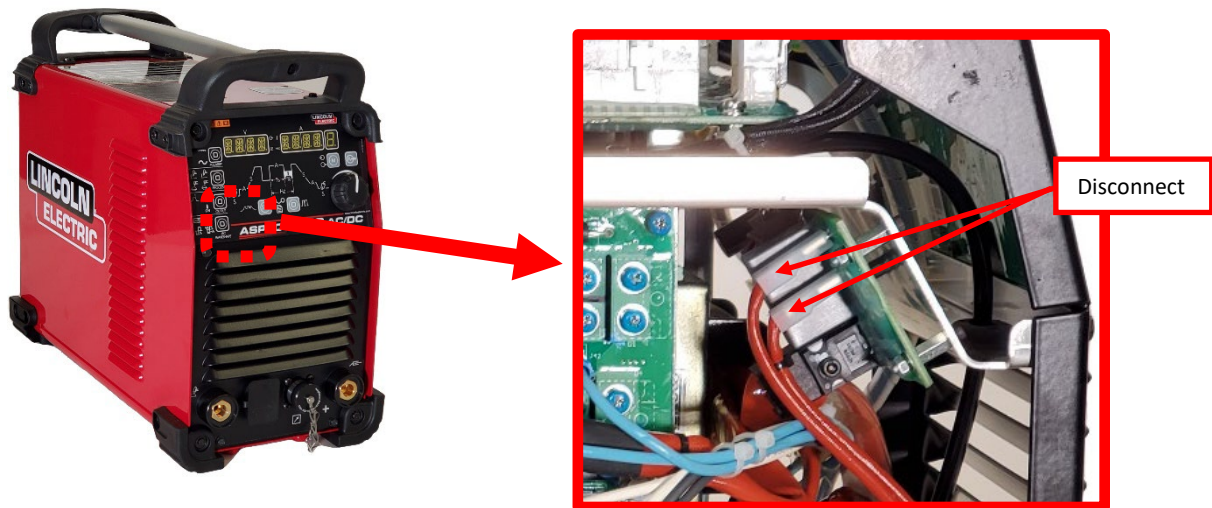

Figure F.4
B.1. Ensure the machine is off, not plugged in or connected to external power. Label and remove connectors identified before proceeding. Refer to Figure F.4 for locations.